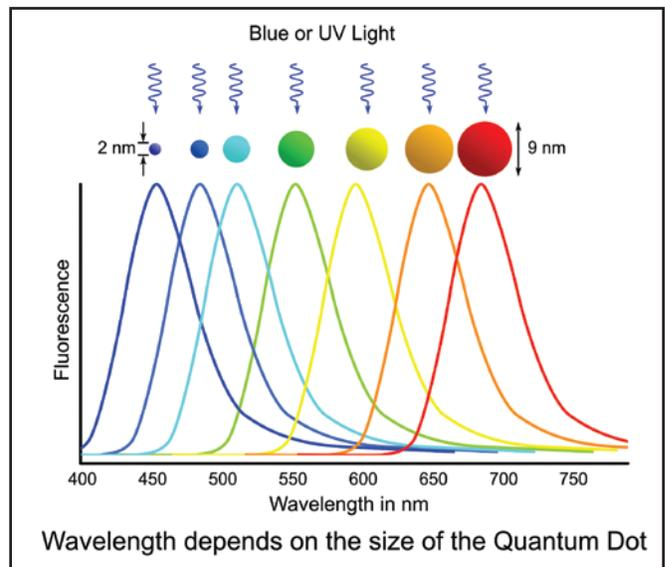

Figure 3 – Wavelength versus size of a quantum dot
**Figure 3** shows how this might work in practice with a single semiconductor material fashioned into differing sizes of quantum dots. In this diagram, I've shown the quantum dots being excited by